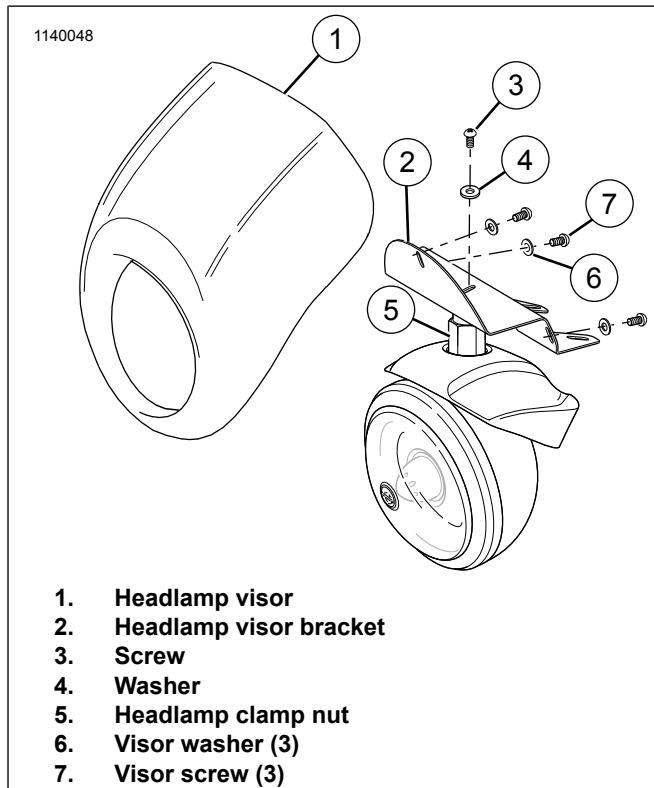

Figure 71. Headlamp Adjustment: XL1200NS
1. See Figure 71. Remove visor screws (7) and washers (6).
2. Remove headlamp visor (1) from headlamp visor bracket (2).
3. Remove screw (3) and washer (4).
4. Loosen headlamp clamp nut (5).